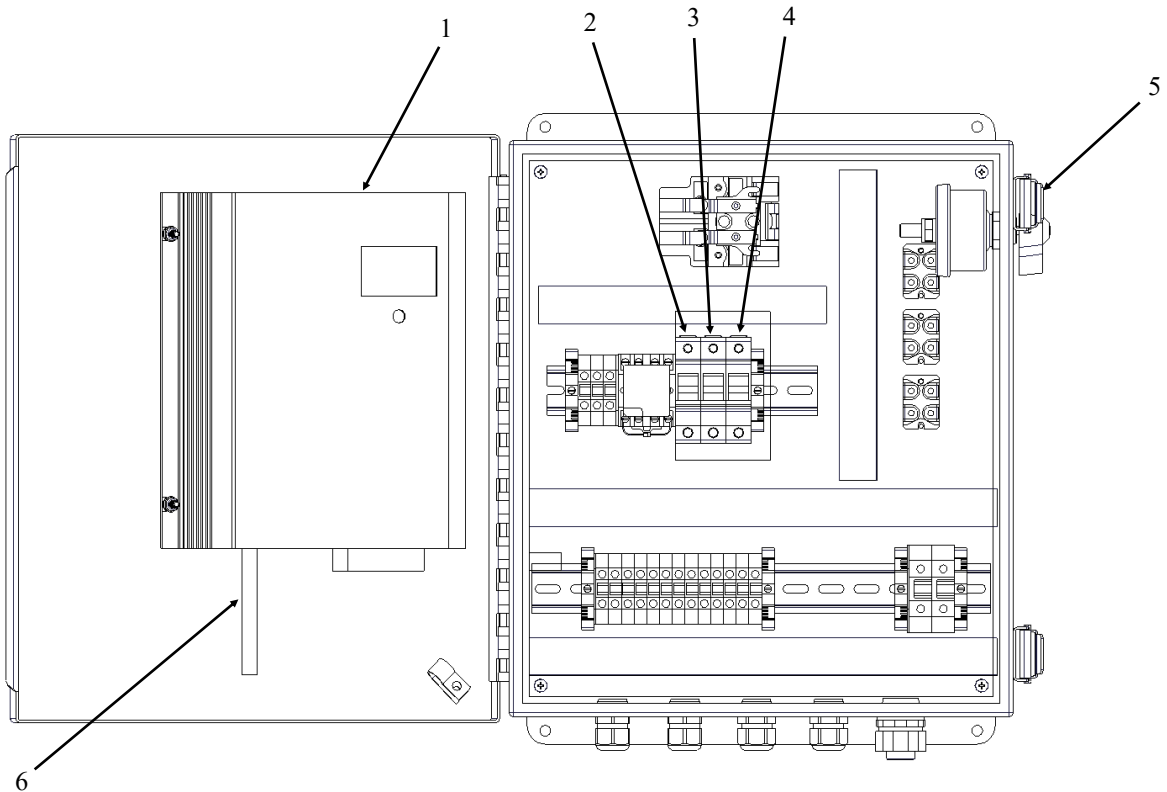

Figure 4-4. Main Electrical Panel
- b. Open the main electrical panel. See Figure 4-4.
- c. Located the 120-VAC cord (6). Figure 4-4.